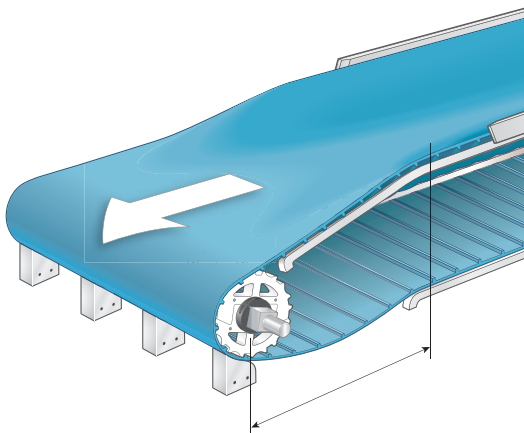

Figure 40
- Ensure the transition distance (distance from end of troughed conveyor to drive or idle shaft center) is adequate. The transition distance should be 1.5 times the belt width. Proper transition distance (Figure 40) minimizes strain on belt edges and reduces belt friction.